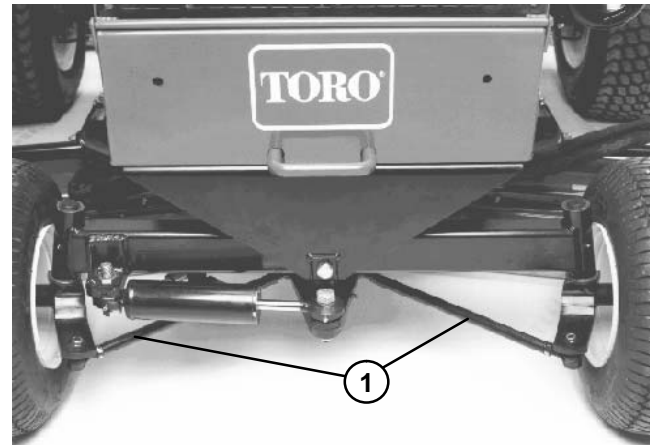

Figure 8
2. Loosen the jam nuts on both tie rods. Adjust both tie rods equally until center-to-center distance at front of rear wheels is 0–0.125 in. (0.0–3.0 mm) less than at the rear of the wheels (Fig. 8).